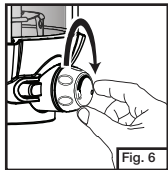

Fig. 6
- Turn fuel valve off. (Fig. 6)